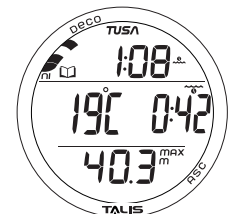

Fig. 50 - LOG DATA 1
**Log Data 1**, information includes (Fig. 50):